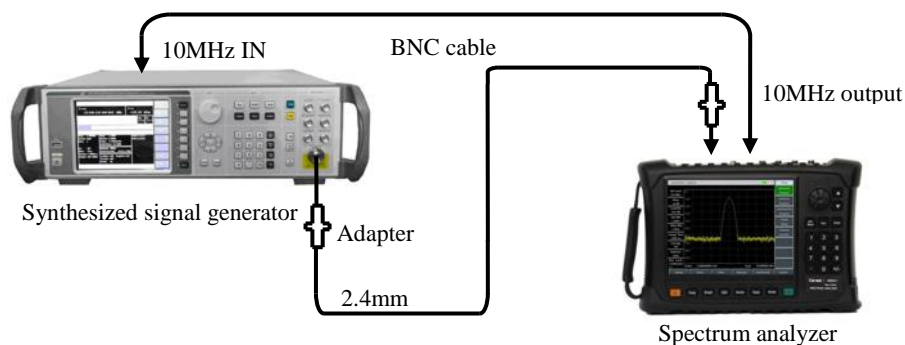

Fig. 12-17 Setting for Input Attenuator Switching Uncertainty Test
1) Connect the test equipment as shown in Fig. 12-17. The spectrum analyzer will provide the frequency reference for the synthesized signal generator 1464C.